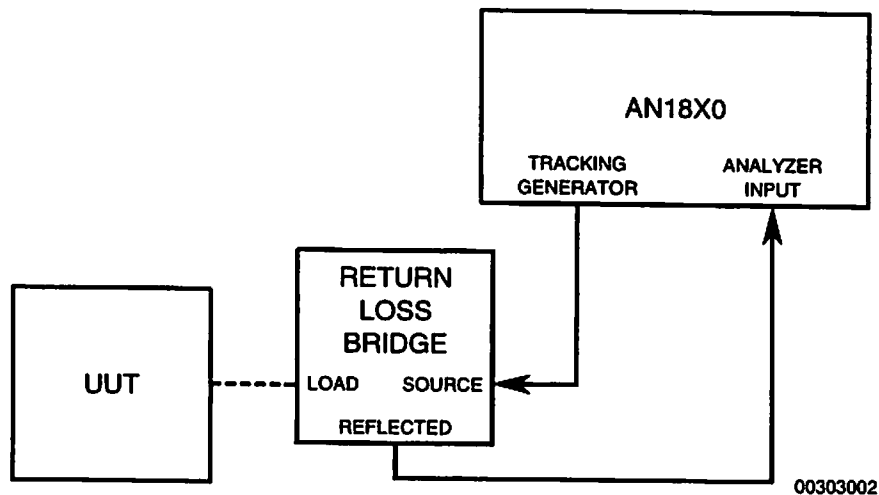

Figure 4-28 Return Loss Bridge Measurements Hook-Up
2. Connect TRACKING GENERATOR Connector  to SOURCE Connector of Return Loss Bridge (see Figure 4-28).
3. Connect ANALYZER INPUT Connector  to REFLECTED Connector of Return Loss Bridge (see Figure 4-28).
11. Connect unit under test (UUT) to LOAD Connector of Return Loss Bridge according to Figure 4-28.